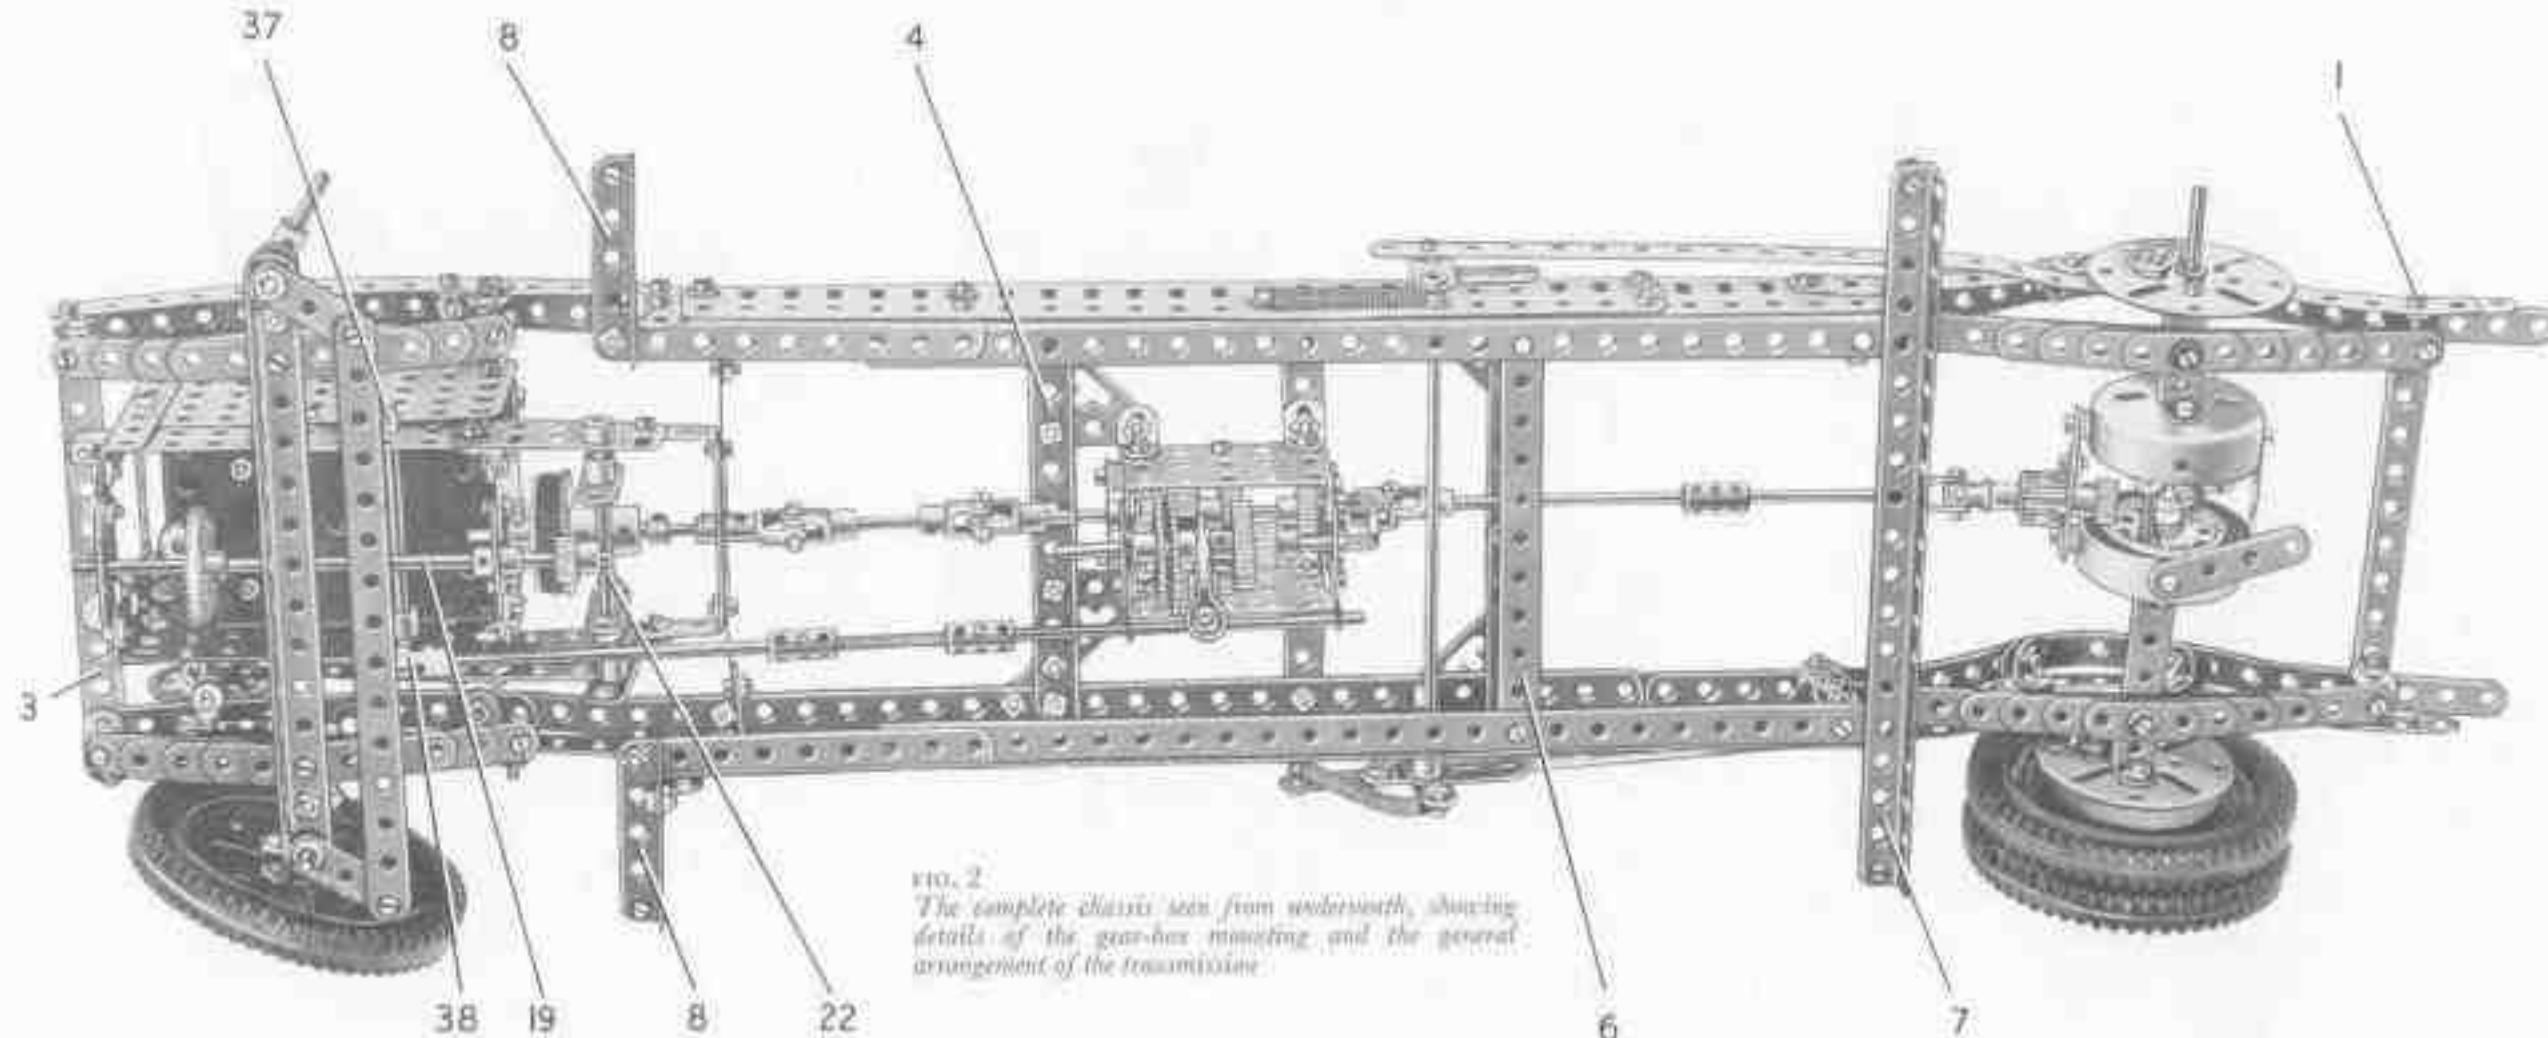

FIG. 2
Details of the Chassis (Fig. 2)
Engine Unit and Clutch (Figs. 2, 3 and 6)
The gear selector lever is fixed at its lower end in a Rod Socket (36) (Fig. 3). The shank of the Rod Socket is screwed tightly into a Collar on a 3½" Rod (37) (Fig. 2), which is mounted in the engine unit and carries a Crank. A Strip Coupling (38) is pivotally attached to the Crank by a ½" Bolt, and is connected to the Rod (34) by a 4½" Rod, two Couplings and a Flexible Coupling Unit.
The Brake Operating Mechanism (Fig. 2, 3 and 6)
Front Axle and Steering Figs. 2, 3 and 6
The front axle beam is a $7\frac{1}{2}$ " Angle Girder (Fig. 2) and is attached to two leaf-springs, each of which consists of a $5\frac{1}{2}$ ", a $4\frac{1}{2}$ ", a $3\frac{1}{2}$ ", a $2\frac{1}{2}$ " and a $\frac{1}{2}$ " Strip. An Angle Bracket is fixed to each end of each spring, and these are *lock-nutted* to Flat plates bolted to the chassis. A $\frac{1}{2}$ " Reversed Angle Bracket is fixed to each end of the axle beam.
Girders (7) and (8) (Fig. 2). At the front the body is spaced from each of the Girders (8) by a Collar.